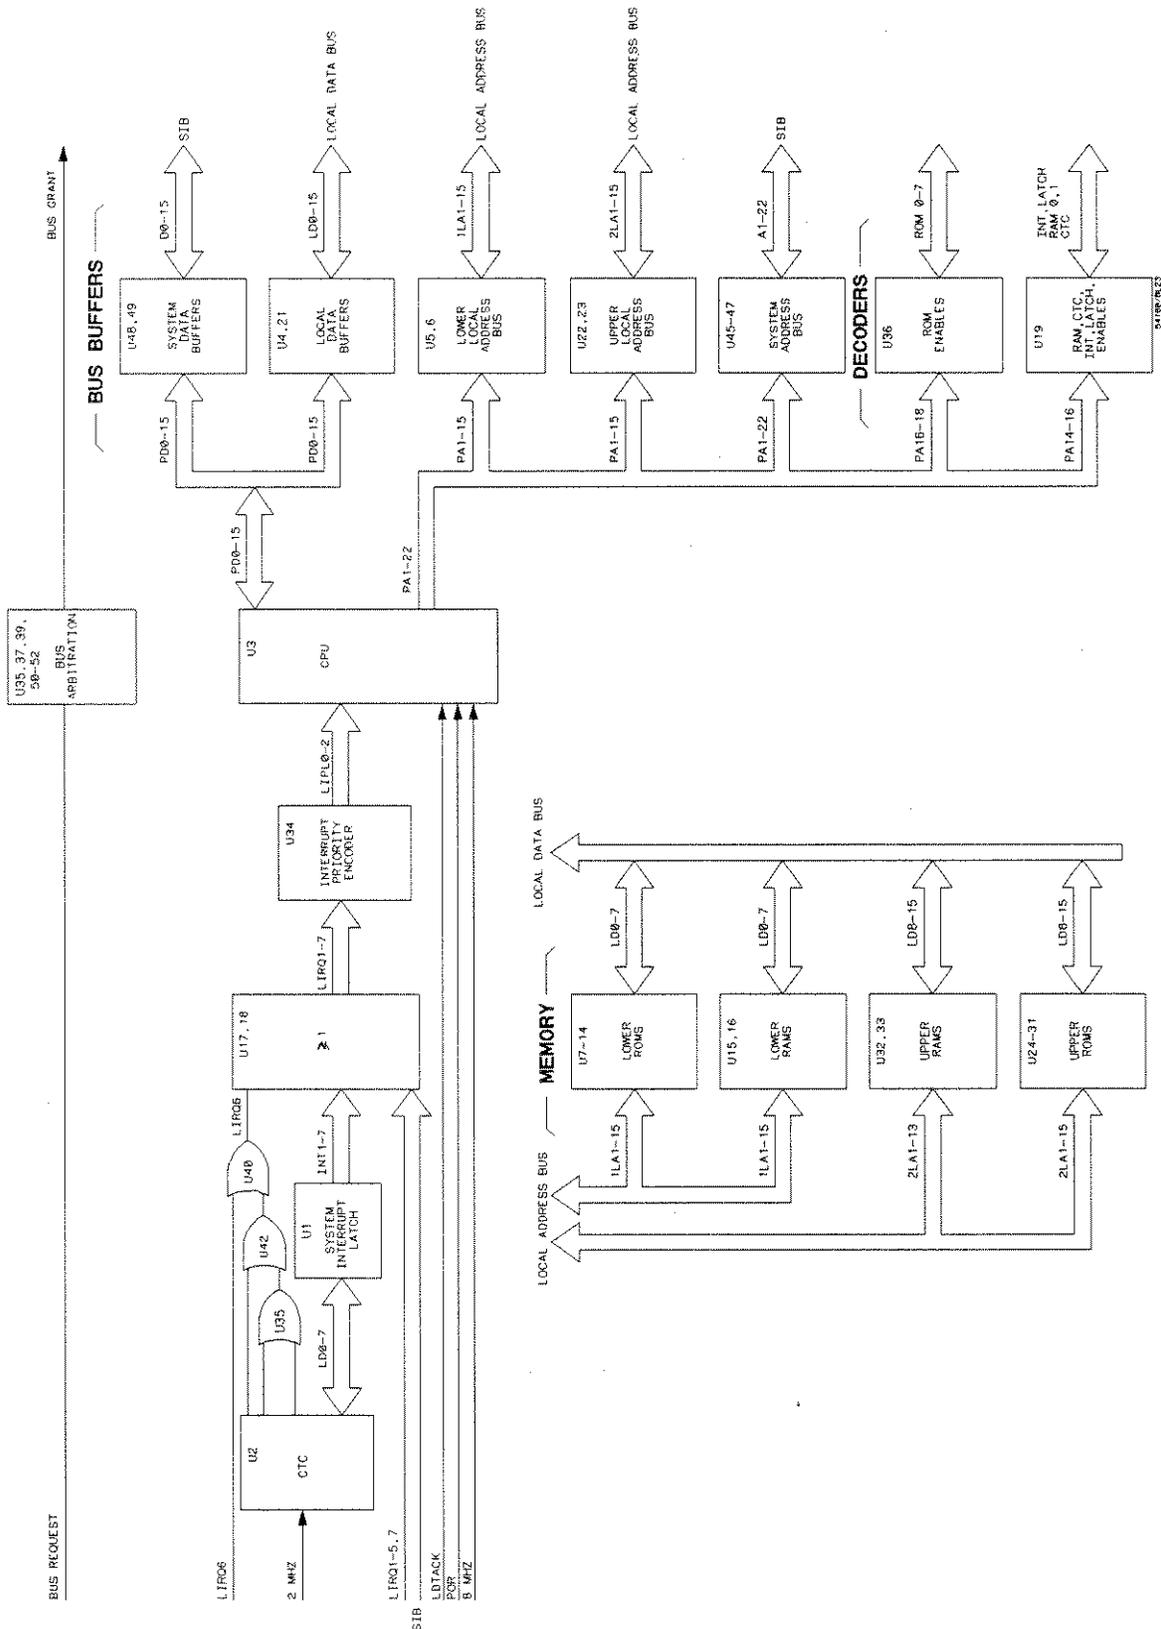

Figure 6B-5. Microprocessor Assembly Block Diagram
- The following theory applies to figure 6B-5. The microprocessor (CPU) has two major functions, data acquisition and I/O interfacing. It starts an acquisition cycle by resetting the GO bit to a logic low level. The CPU then waits for the GO bit to go high again. The GO bit going high tells the CPU to process sampled data. I/O interfacing involves updating display information, interpreting key closure data, RPG data, and HP-IB commands. In remote mode the CPU takes commands from an external controller.